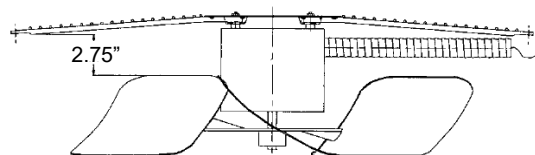

FIGURE 12
4. Adjust fan height as shown in **Figure 12**.
Refer to Troubleshooting Tables and **Figure 12** for additional information.